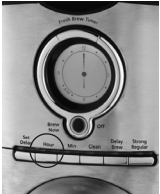

Figure 1
2. Press and hold the HOUR and MINUTE buttons until you reach the current time. The AM or PM indicator will light at the bottom of the display (Figures 1 and 2).